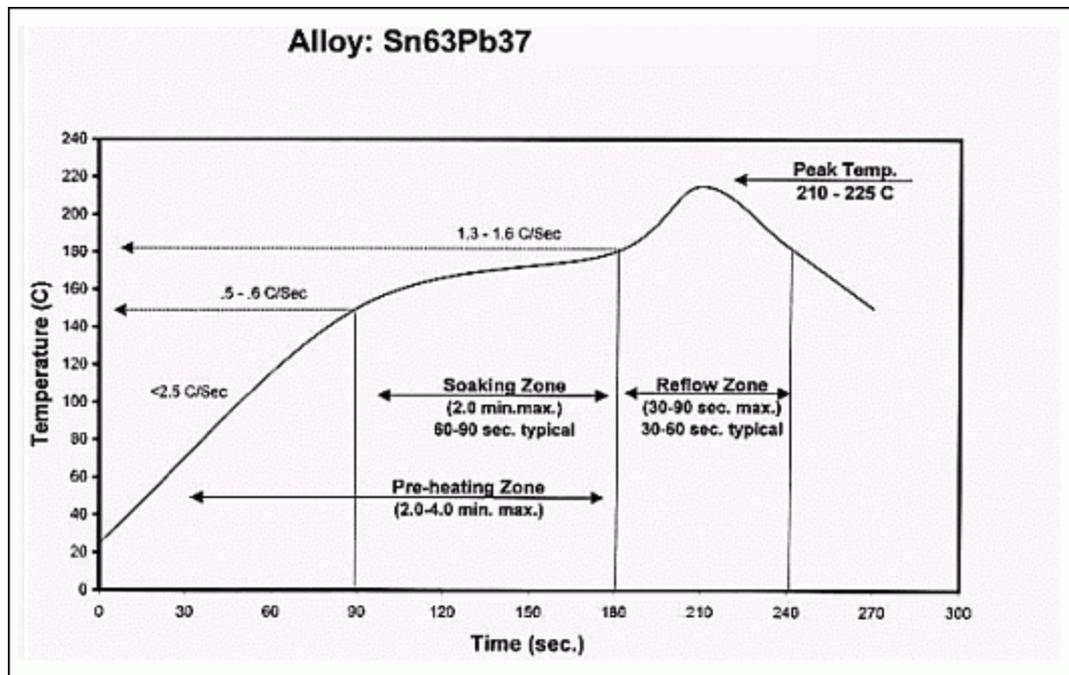

Figure 6. Typical temperature Profile for Eutectic Sn-Pb Solder paste.
- Eutectic Sn-Pb solder paste reflow to eutectic Sn-Pb and "High-Pb" solder bump WLPs: Nominal peak temperature is  $220^{\circ}\text{C} \pm 15^{\circ}\text{C}$  with time above the  $183^{\circ}\text{C}$  melting point of  $60\text{s} \pm 15\text{s}$ , which should be verified at machine setup by inline thermocouple measurements oven profiling. A typical eutectic Sn-Pb solder paste reflow temperature profile is shown in **Figure 6**. The peak temperature Upper Limit is recommended for eutectic Sn-Pb solder paste reflow to "High-Pb" solder bump WLP, to further enhance the intermetallic bond layer at the bump interface.